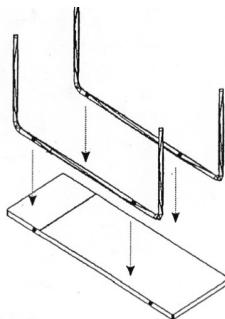

Fig. 1
- Set legs in front of the screwed holes into the structure of the upholstery plane (Fig. 1).